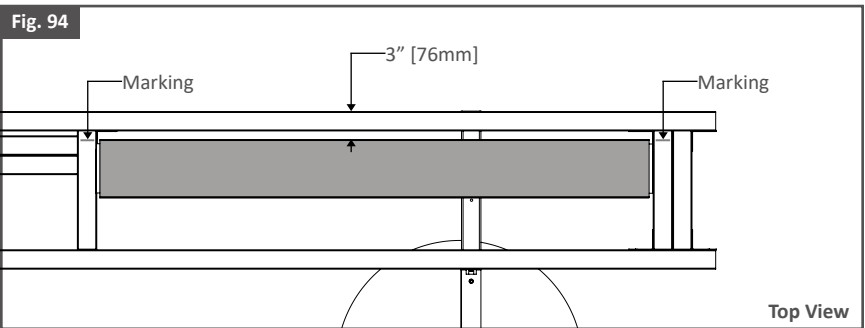

Fig. 95
6. Using Evolution Self-drilling Screws, fasten the F-50 Brackets of the cut Joist assembly onto the corner post blocking and side post blocking. As show in Fig. 95.